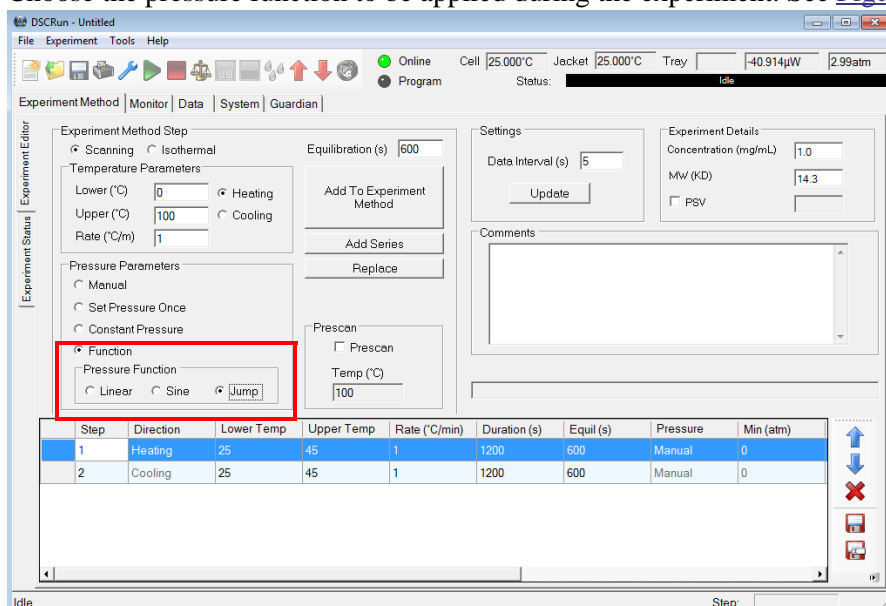

Figure 14 Screen shot of DSCRun highlighting the different pressure parameters available.
On the **Experimental Method** tab, check either scanning or isothermal and enter the temperature limits and scan rate; see Figure 14. If scanning, a slow rate is required because the calculations assume isothermal conditions; see the definition of $\bar{\alpha}$ in Equation 1 (4). If the scan rate is slower than the instrument feedback then it can be safely assumed isothermal during the pressure steps. A rate of 0.1 °C/min is recommended. This scan rate will typically satisfy the isothermal requirement without scanning so slowly that resolution of the heat rate is unduly sacrificed.
Choose the pressure function to be applied during the experiment. See Figure 14.